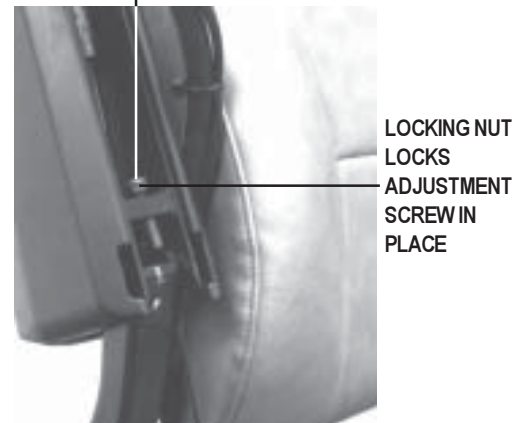

Figure 17. Armrest Angle Adjustment
2. Use a 7/16-in. wrench to loosen the locking nut. See figure 17.